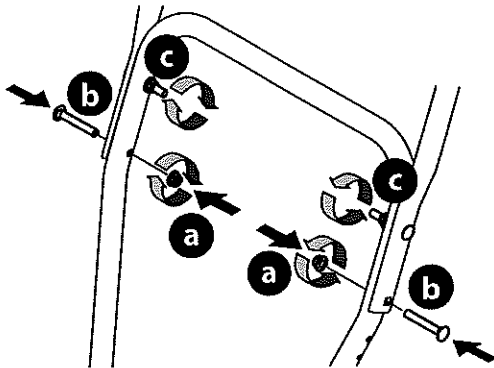

Figure 5
6. Attach the two carriage bolts (b) and nuts (a) removed in Step 2. Finish securing the handle by tightening the top two nuts (c) loosened in Step 2. See Figure 5 or Figure 6 for models with side supports.